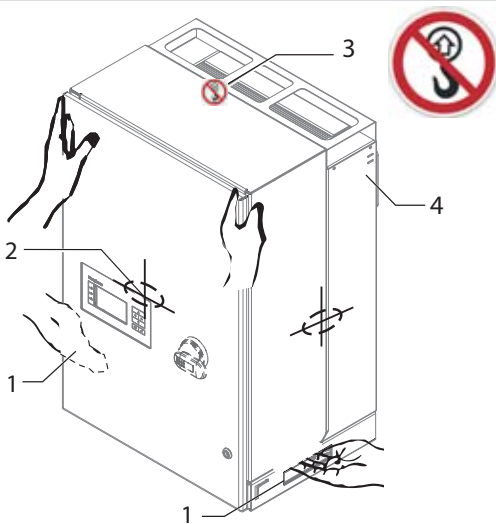

Figure 13: Lift the unit using the opening
1. Use the lateral openings for lifting **or** insert the transport device into the lateral slots and lift the unit at the designated positions (see Figure 13 on page 16).